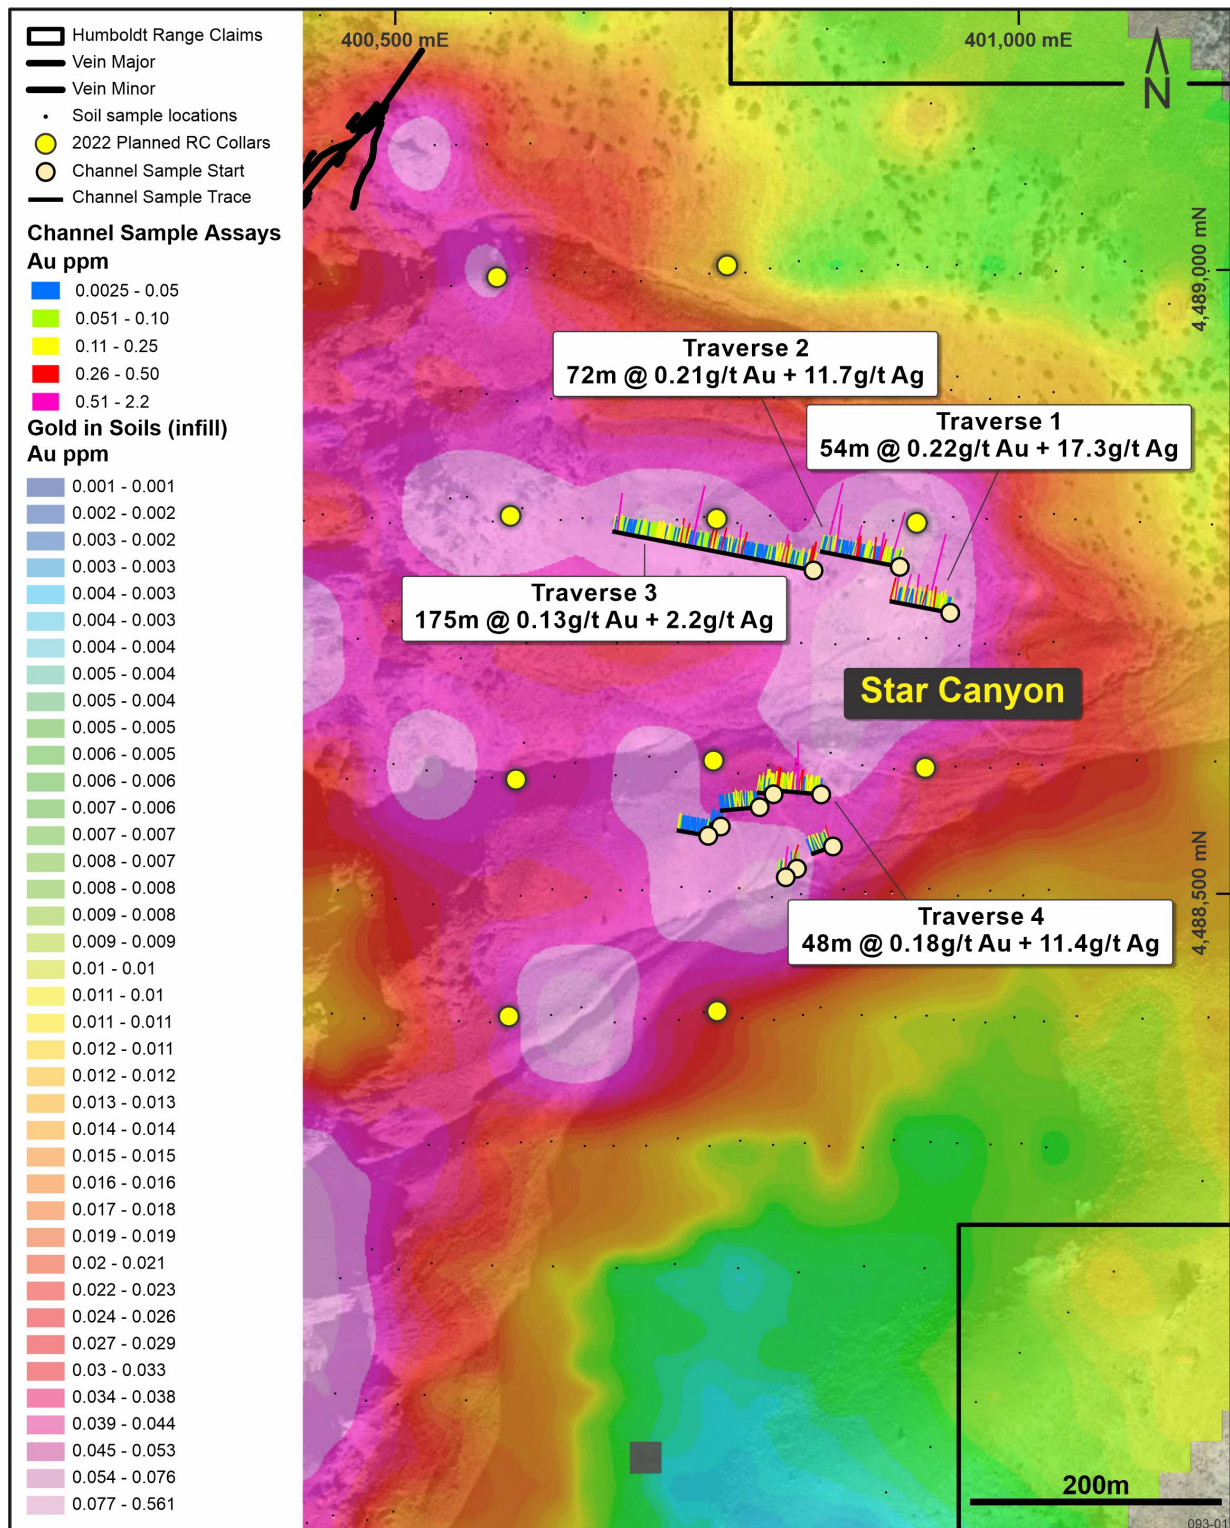

Figure 7 Channel sample assay results across the 645m x 500m +50ppb gold-in-soil anomaly. Planned RC drill collars shown.
- Highly anomalous gold and silver levels were recorded in six of the eleven channels that were sampled (see Figure 7):
- **This area represents the Black Canyon's best-known target for large tonnage, low to moderate grade gold-silver mineralisation, with drill testing now underway. Drill collar locations are shown in Figure 7.**